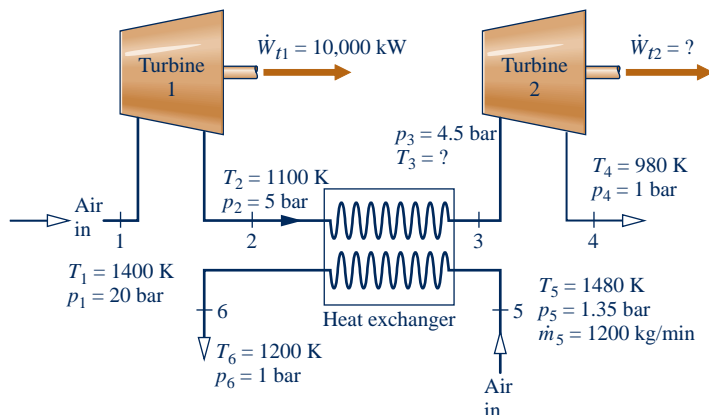

Fig. P6.116
- 6.116** Air as an ideal gas flows through the turbine and heat exchanger arrangement shown in Fig. P6.116. Steady-state data are given on the figure. Stray heat transfer and kinetic and potential energy effects can be ignored. Determine